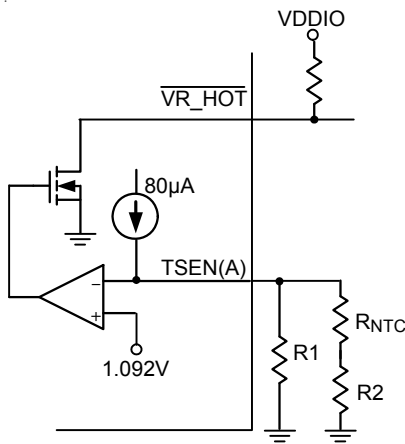

Figure 8. VR\_HOT Circuit
The VR\_HOT signal is an open-drain signal which is used for VR thermal protection. When the sensed voltage at TSEN(A) pin is less than 1.092V, the VR\_HOT signal is pulled-low to notify CPU that the thermal protection needs to work. According to Intel VR definition, VR\_HOT signal needs acting if VR power chain temperature exceeds 100°C. Place an NTC thermistor at the hottest area in the VR power chain and its connection is shown in Figure 8, to design the voltage divider elements (R1, R2 and NTC) so that VTSEN(A) = 1.092V at 100°C. The resistance error of TSEN network is recommended to be 1% or smaller.